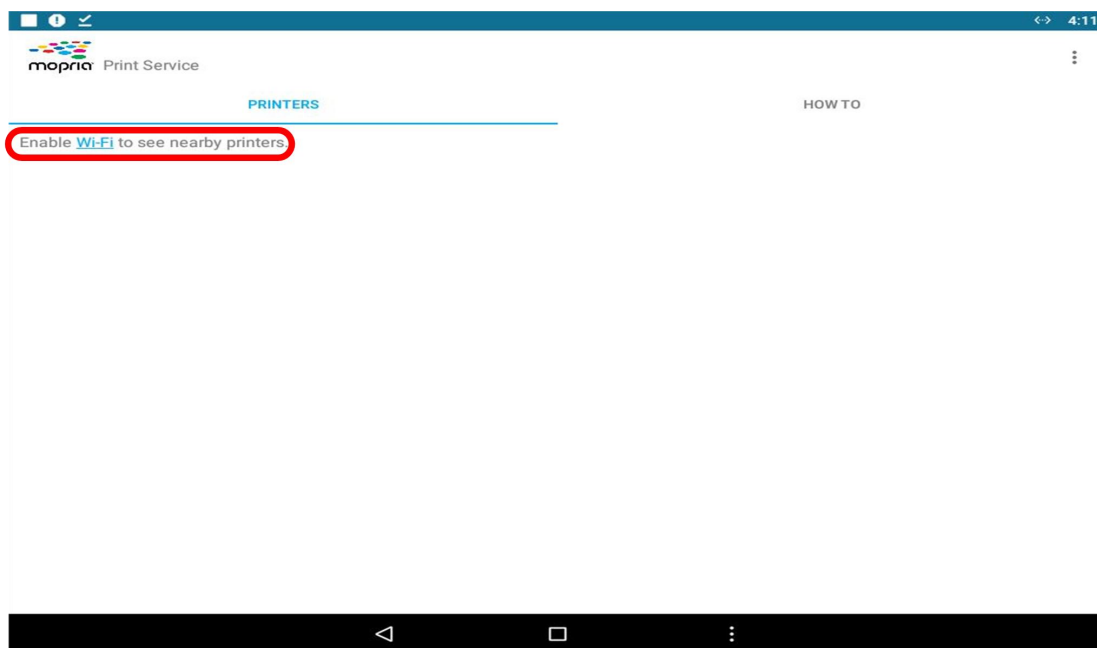

Figure 8
4、After entering the printing software interface, click "**Enable Wi-Fi to see nearby printers**" to connect the printer's Wi-Fi, as shown in Figure 8. The Wi-Fi connection is successful, as shown in Figure 9.